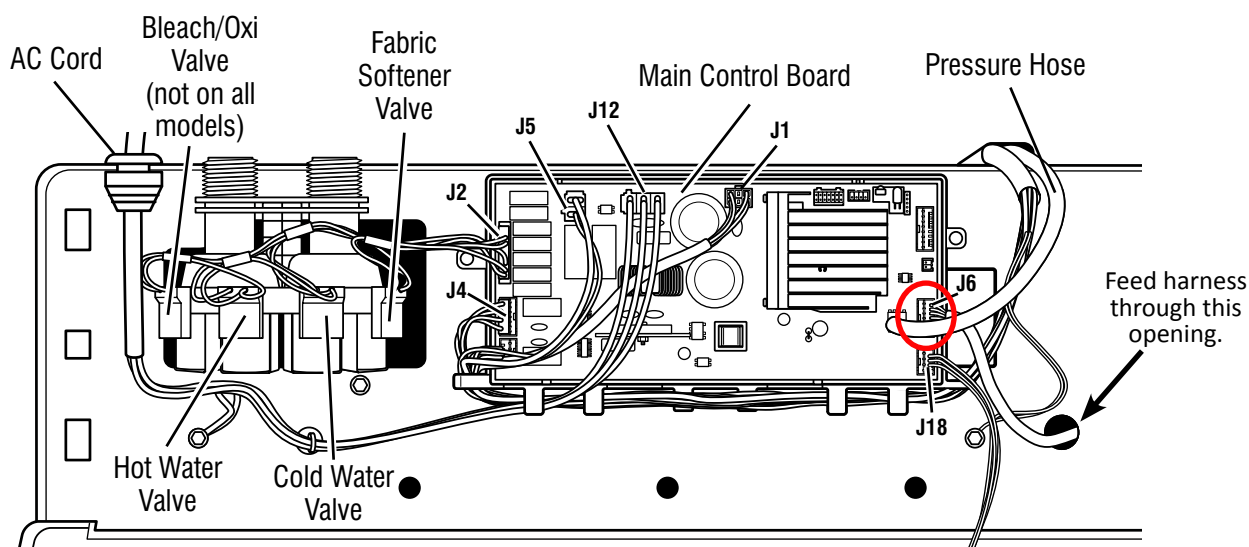

Figure 1
5. Disconnect the Lid Lock connector "J6" from the Main Control (see Figure 1).
6. Feed the Lid Lock harness through the opening in the washer top panel (see Figure 1).